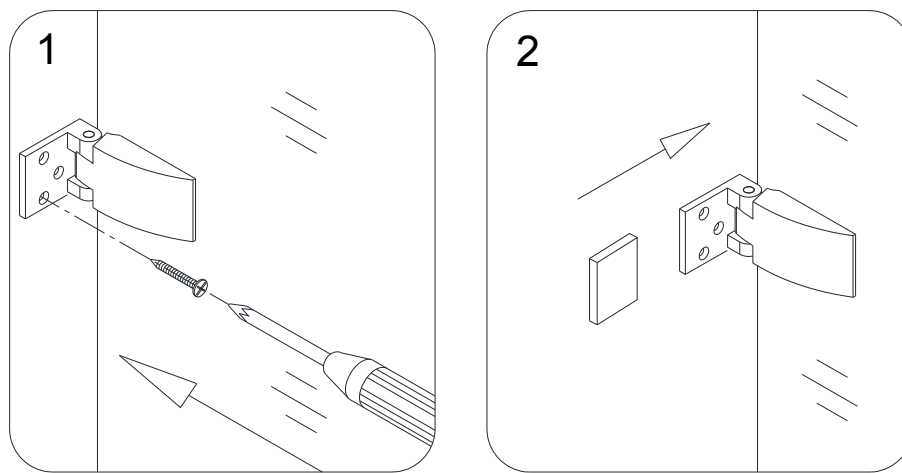

Fig 4
4. Place the **Door Glass (#01)** back into position onto the 3/8" shims on the tub deck and secure the **Hinges (#05)** to the wall using the **Flat head screw ST4.2×60 (#04)**. Snap the decorative covers back onto the wall plates (**Fig 4**)